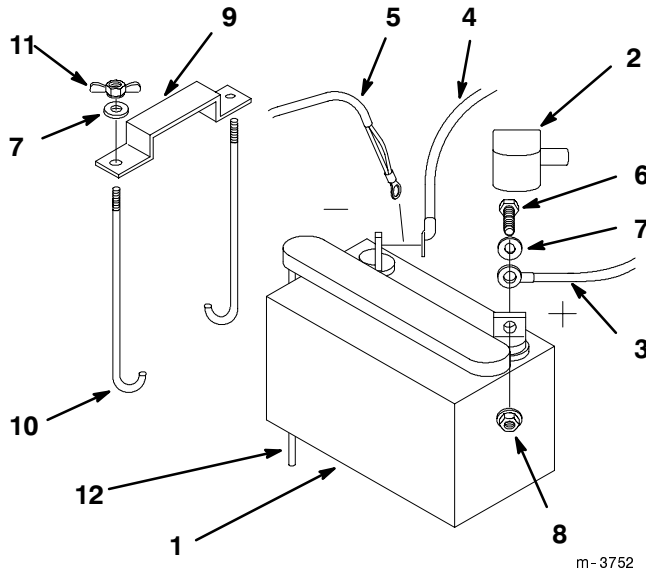

Figure 8
1. Position battery in tray with terminal posts toward the engine (Fig. 8).
- Secure cables with 2 bolts (1/4 x 3/4 in.), washers (1/4 in.), and locknuts (1/4 in.) (Fig. 8).
- Secure battery with J-bolts, hold down clamp and 2 washers (1/4 in.) and 2 wing nuts (1/4 in.) (Fig. 8).